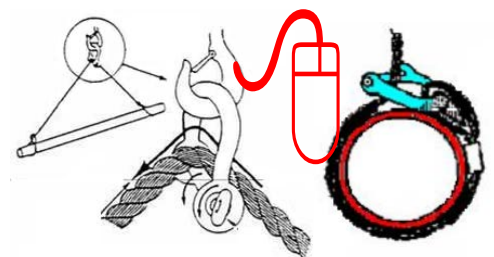

Fig. 14
- ⌚ Shackle pin bearing on running line can work loose. If the load shifts, the sling will unscrew the shackle pin. (see Fig. 14 & 15)